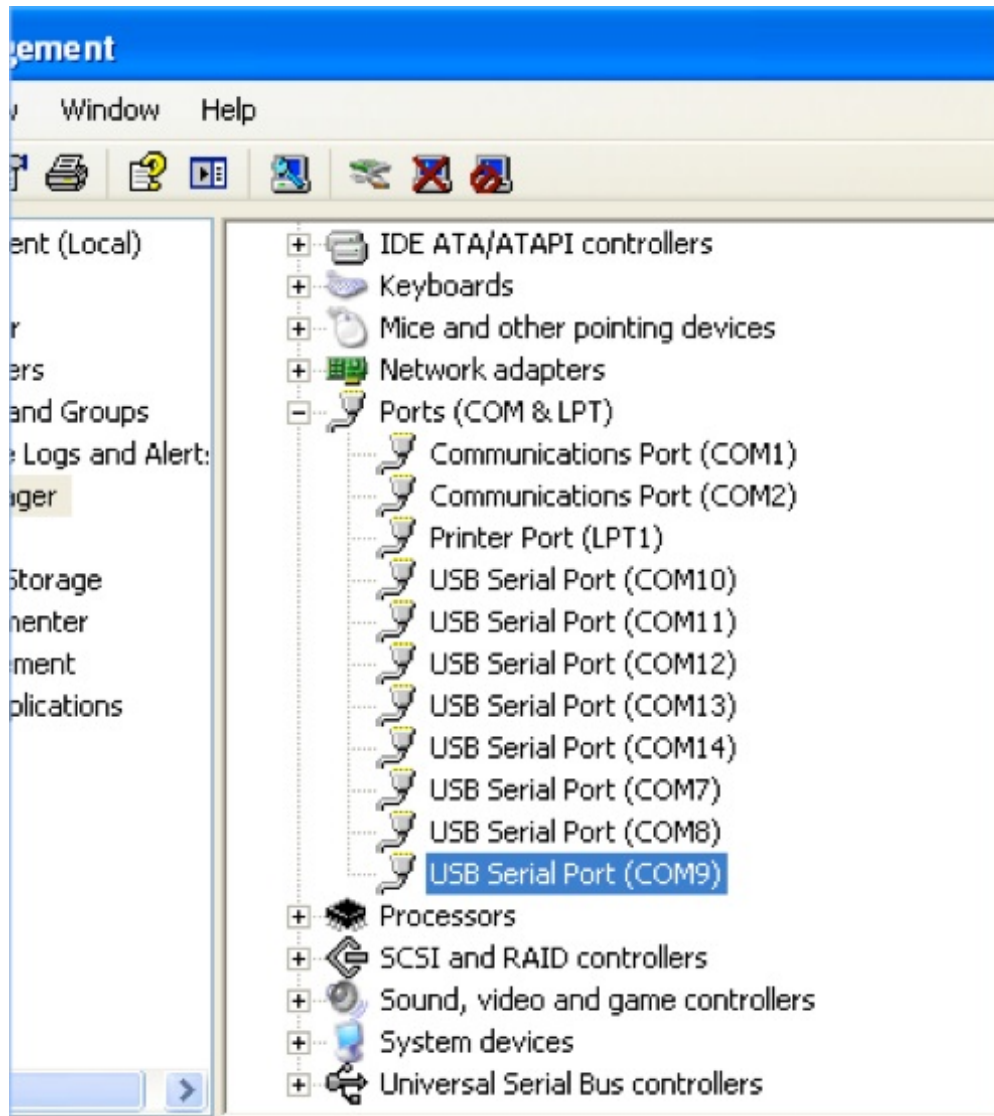

Figure 3: Device Manager (see step 2) Example
3. Using the Windows **Device Manager**, make sure that the baud rate is set to 115,200 for the API COM ports. Double-click the port and select the "Port Settings" tab. As an example, see Figure 3: